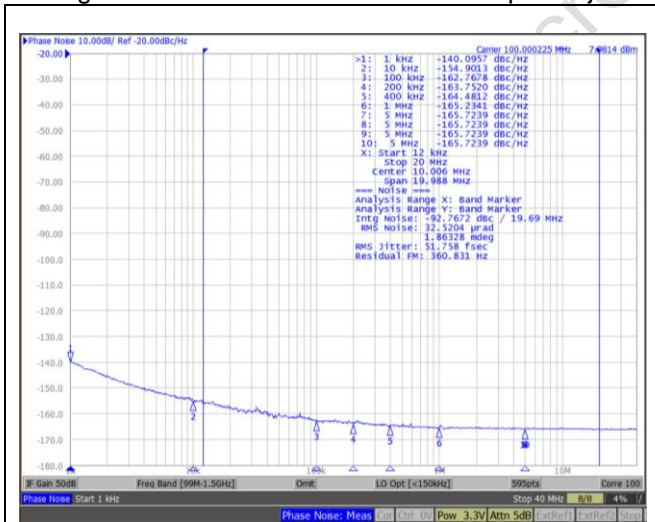

Figure 8, Reference Input Phase Noise @2.5V VDD
- With an integration range of 12kHz to 20MHz (VDD is 2.5V), the reference input has about 51.75 fs of RMS phase jitter shown in figure 8, and the output of GM51104 has about 54.73fs of RMS jitter shown in figure 9. This results in a low additive phase jitter is less than 17.8 fs.
- With an integration range of 12kHz to 20MHz (VDD is 3.3V), the reference input has about 52.55 fs of RMS phase jitter shown in figure 8, and the output of GM51104 has about 55.59fs of RMS jitter shown in figure 9. This results in a low additive phase jitter is less than 18.13 fs.